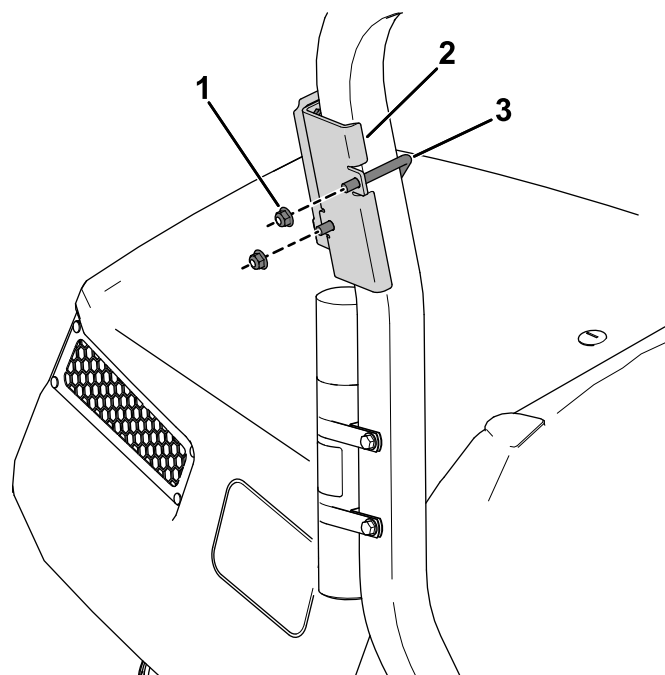

Figure 12
2. Use a U-bolt and 2 flange nuts (3/8 inch) to secure the device bracket to the area above the manual tube on the roll bar (Figure 12).